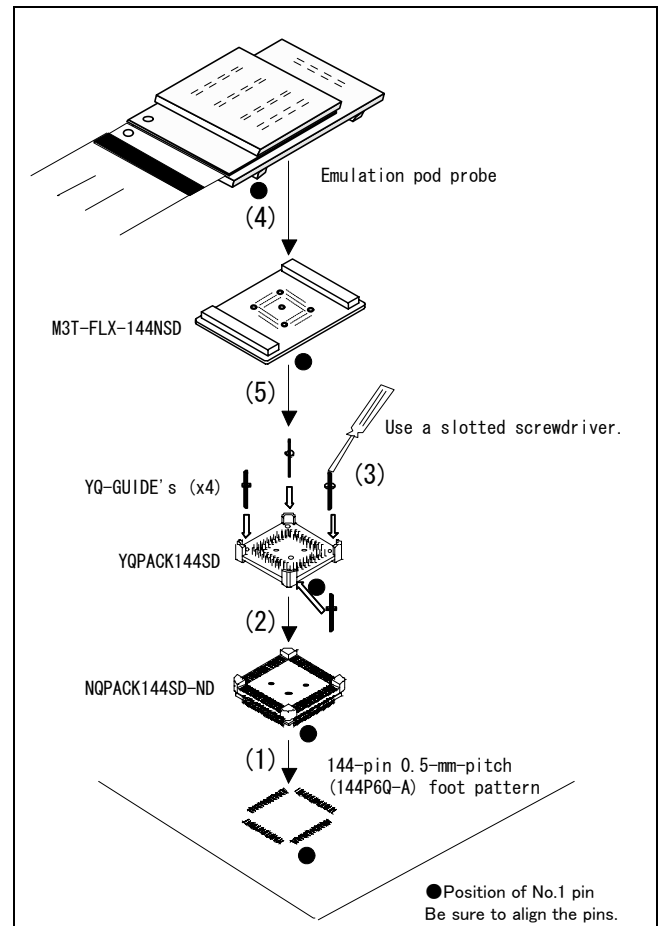

Figure 3 Connection procedure of the M3T-FLX-144NSD
5. Connection Procedure (See Figure 3)